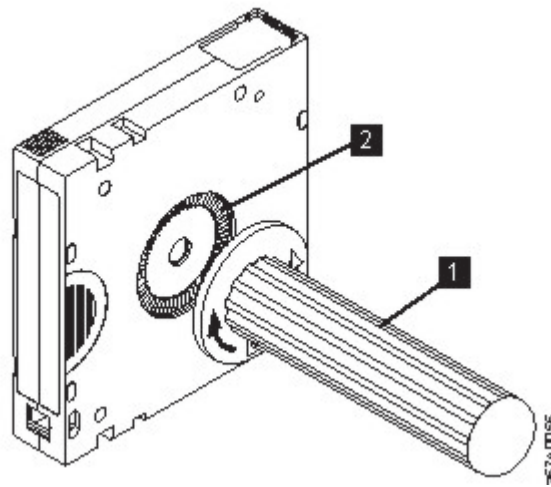

Figure 104. Rewinding the tape into the cartridge
5. To rewind the tape, insert the cartridge manual rewind tool (1 in Figure 104 on page 231) into the cartridge's hub (2) and turn it clockwise until the tape becomes taut.